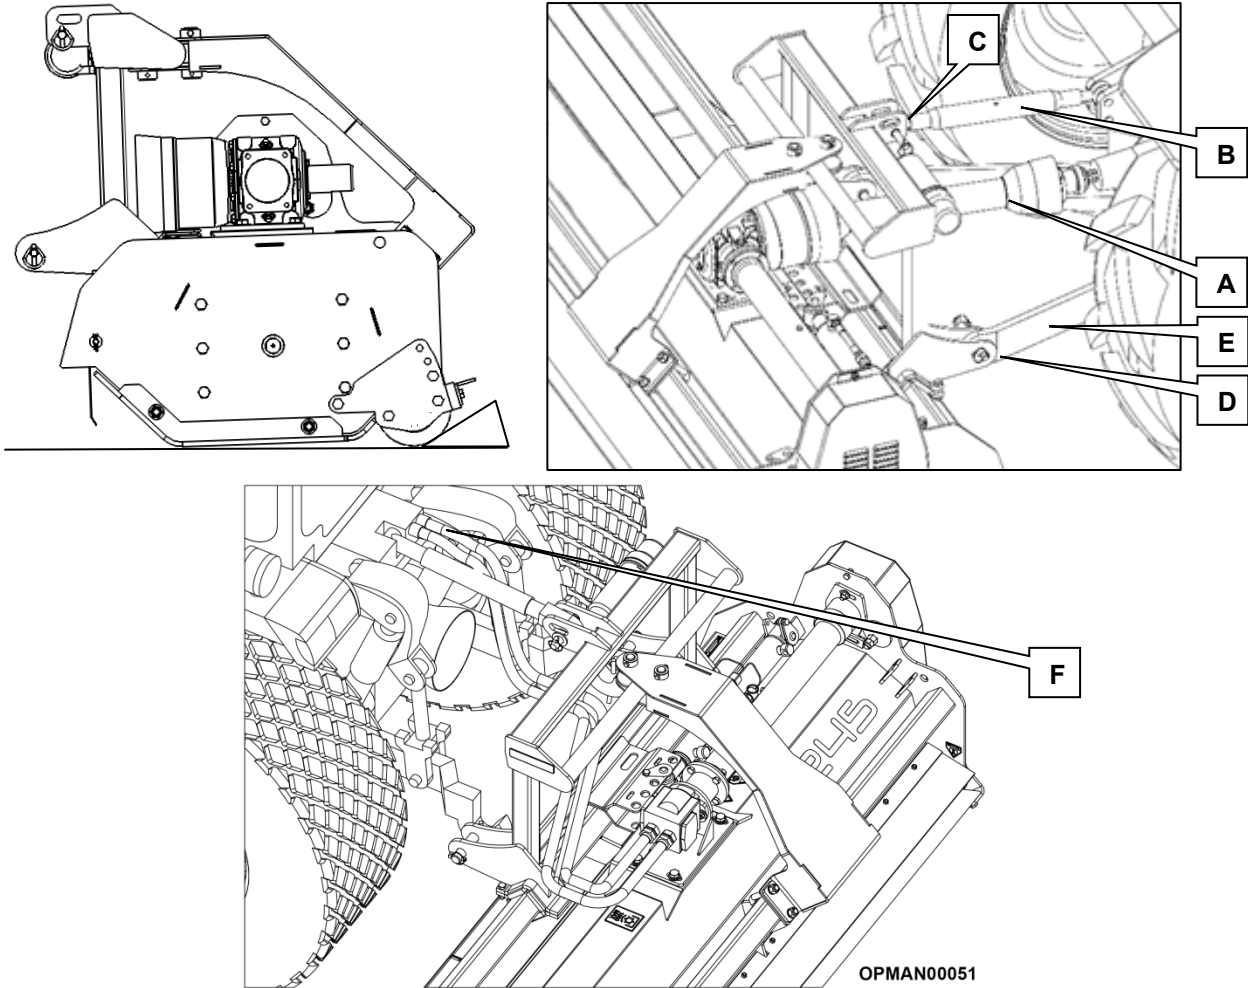

Figure 8.1
- 8.2.1.1 To prevent the risk of rolling, locate a safe place with firm flat ground on which to store the flail mower. If necessary wedge the roller to prevent inadvertent movement, see Figure 8.1